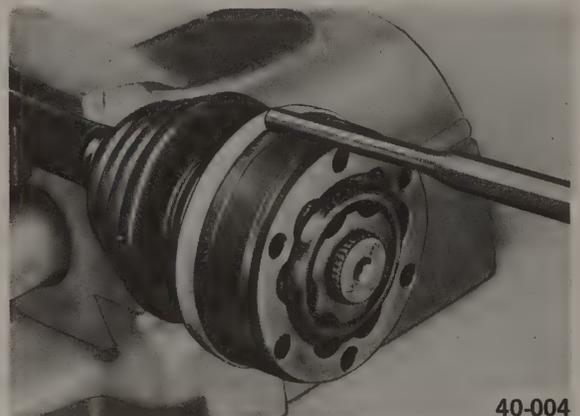

Fig. 5-8. Driving off CV joint protective cap with drift and hammer.
- Drive the protective cap off of the outer ring of the joint, as shown in Fig. 5-8, and fold the boot away from the joint, inside out over the axle shaft.